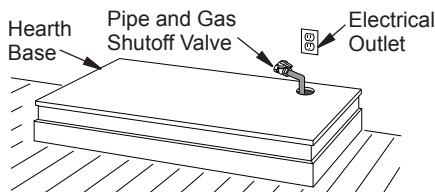

Figure 10 - Placing Hearth Base Against Wall
2. Place hearth base against wall at installation location. Cut an access hole in hearth base to run gas line to fireplace (see Figure 10). Make sure to locate access hole so cabinet mantel will cover it when installed. Note: You can secure base to floor using wood screws. Countersink screw heads and putty over.